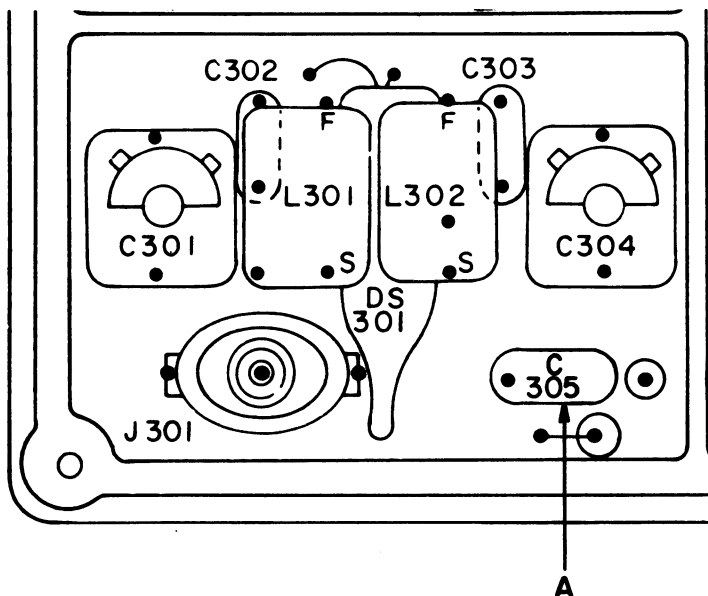

Figure 1 - Installation Diagram
2. Locate and replace R301 (see Figure 1) with a 1.5 K ohm, 5% 1/4 Watt resistor (GE PART NO. 3R152P152J).
2. Unsolder the lead of capacitor C305 (see Figure 1) and solder one lead of a 39-ohm, 5%, 1/4-watt resistor (GE Part No. 3R152P390J) into the hole from which the capacitor lead was removed.